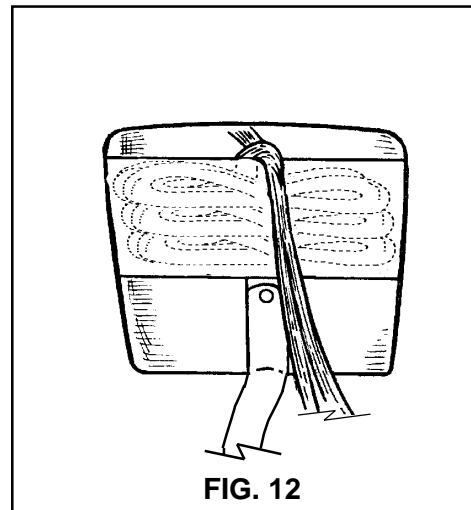

FIG. 12
12. After the two locking stows are made, stow the remainder of the suspension lines (to with-in 6" of the connector links) in the line-stow pouch on the back of the bag. This is where it is useful to use the velcro strips mentioned in the list of tools. Cover the hook velcro on the pouch with the strips of loop velcro while stowing the lines in the pouch. Make figure of 8 folds with the lines, the width of the pouch. To close the pouch, remove the strips of loop velcro and mate the velcro at the mouth of the pouch, being sure that none of the suspension lines are captured by the closure (FIG 12).